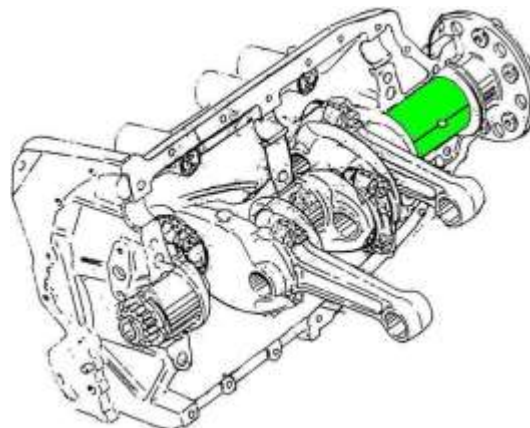

Figure 80
- (1) Apply a coating of engine oil mixture to the front main bearing halves.
- (2) Install the front bearing halves, where they touch (butt together) around the crankshaft.
- (3) Lift the crankshaft assembly by the connecting rods. Lower the crankshaft assembly into the crankcase half (Figure 80). Let the connecting rods extend through the cylinder base openings in the crankcase half.